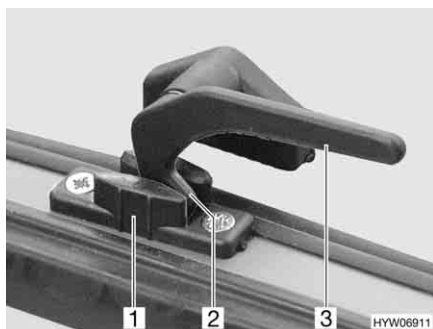

Fig. 83 Catch lever in the "continuous ventilation" position
- "Continuous ventilation" (Fig. 83)
- Turn all catch levers (Fig. 83,3) a quarter turn towards the centre of the skylight.
- Return all catch levers to their initial position. The locking catch (Fig. 83,2) has to be moved into the recess of the skylight lock (Fig. 83,1).